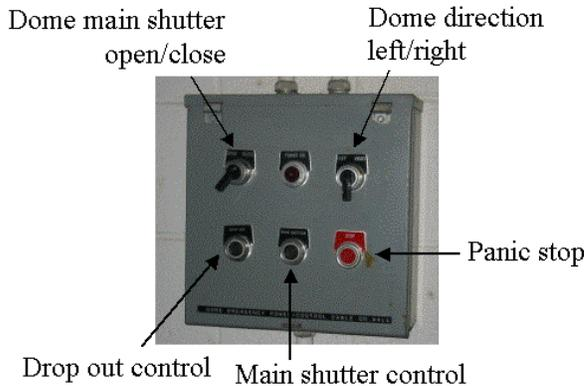

Figure 3. Dome controls. Open main first, then dropout.
2. Set dome main shutter switch to open. See Figure 3 below.
5. To move dome, select left or right motion (Figure 3 below).